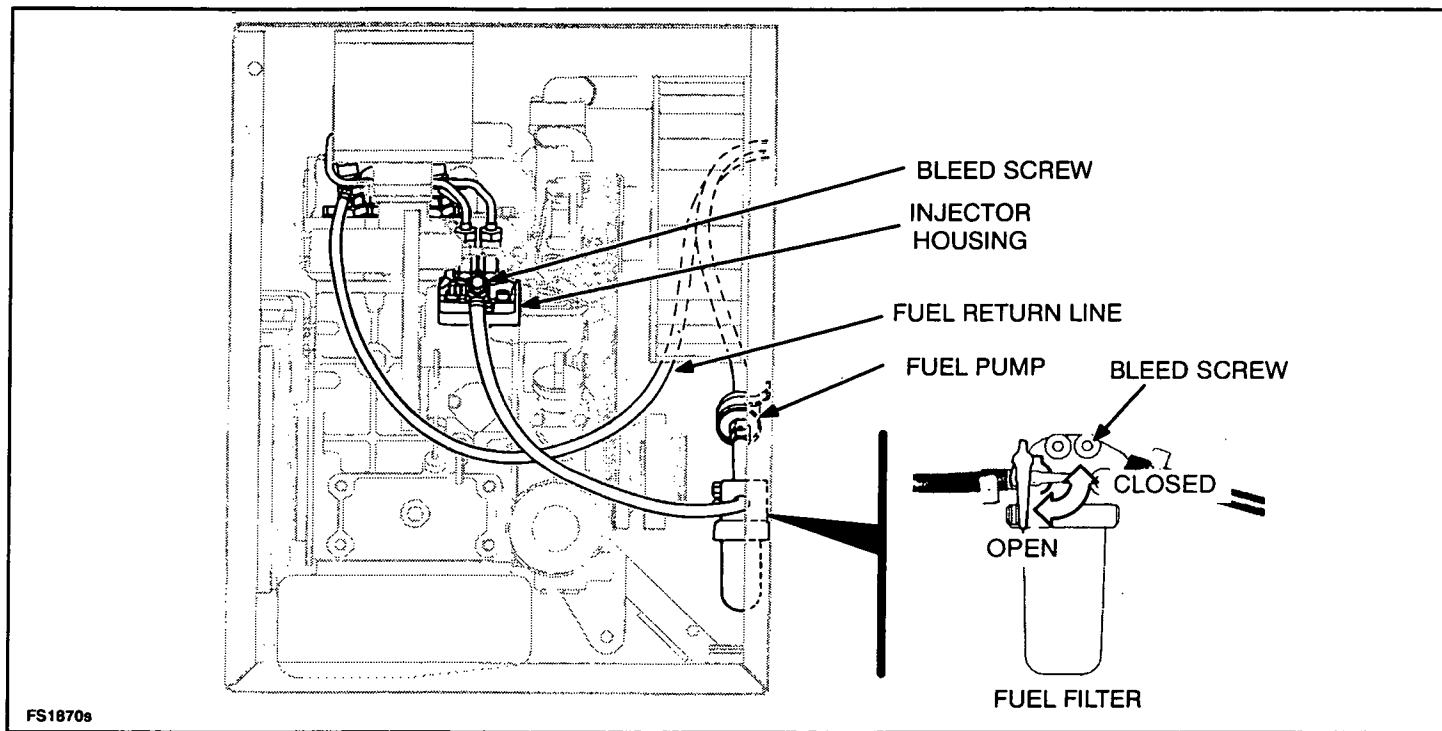

FIGURE 8. FUEL SYSTEM
Use the best fuel available. Fuel quality is important for dependable performance and satisfactory engine life. Figure 8 illustrates the fuel system.
1. Close the fuel shutoff lever (Figure 8). Place a container under the fuel filter to collect fuel.
1. Make sure that the fuel shutoff valve is in the open position (Figure 8).
2. Place a container under the fuel filter to collect fuel. Loosen the fuel filter assembly bleed screw (Figure 8).
7. Loosen the bleed screw on the injector pump housing (Figure 8). Close the jumper switch to energize the fuel pump until fuel purges from the bleed screw opening at the injector pump housing.